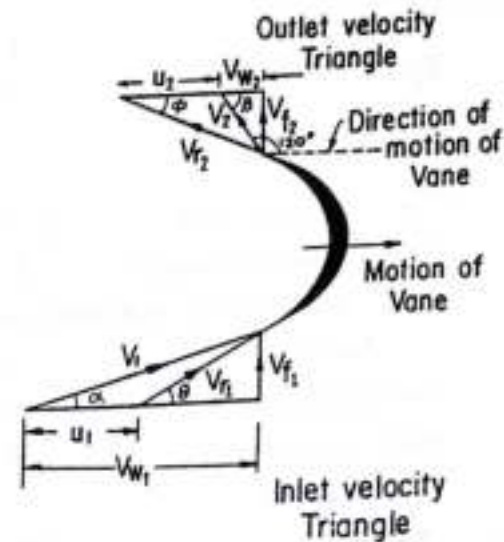

Fig. 17.23 (a)
**17.4.6. Force Exerted on a Series of Radial Curved Vanes.** For a radial curved vane, the radius of the vane at inlet and outlet is different and hence the tangential velocities of the radial vane at inlet and outlet will not be equal. Consider a series of radial curved vanes mounted on a wheel as shown in Fig. 17.23. The jet of water strikes the vanes and the wheel starts rotating at a constant angular speed.
The velocity triangles at inlet and outlet are drawn as shown in Fig. 17.23.
If the angle  $\beta$  in Fig. 17.23 is an obtuse angle then work done per second will be given as